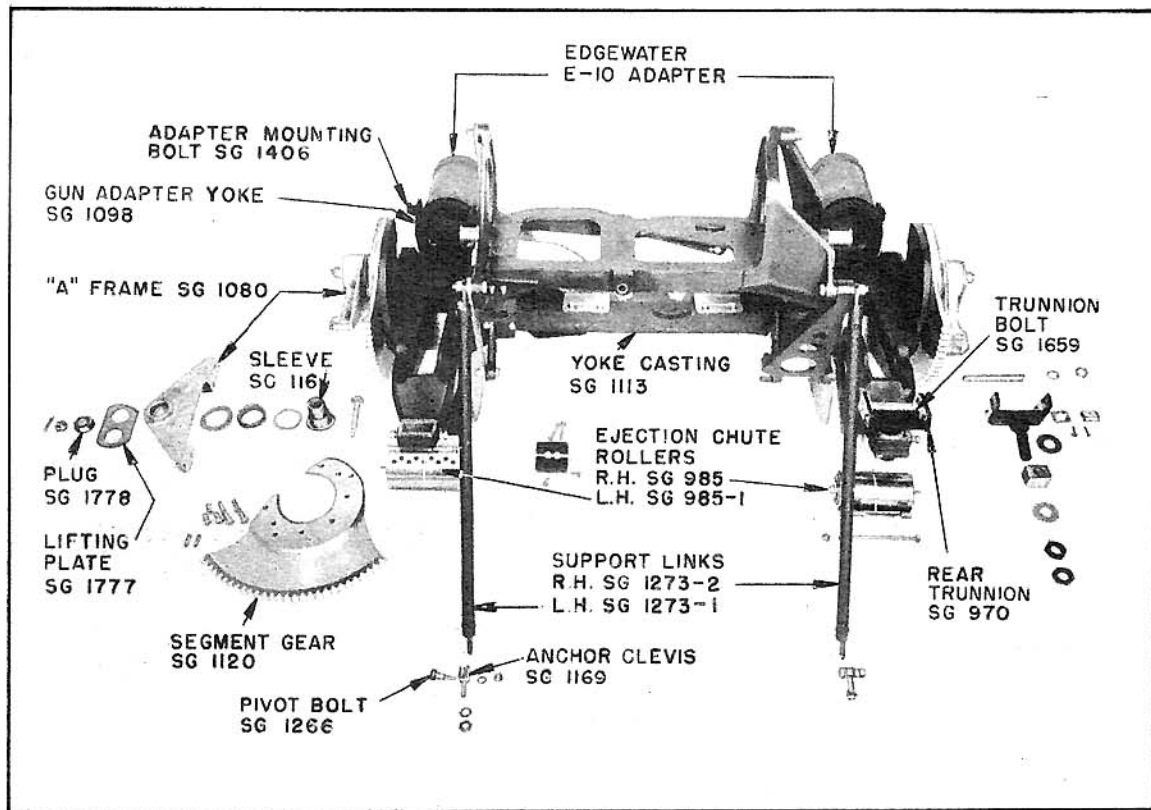

FIGURE 44
1. Carefully mesh segment gear (SG 1120) (see Figure 44) and pinion gear on elevation gear box (see Figure 18) and lower unit so that the studs holding the "A" frame to the unit housing will not be damaged.
(a) General. - 1. The following gun accessories are mounted on each gun before it is installed in the turret. (See Figures 44 and 49.)
(f) Edgewater Adapter. - 1. Remove front trunnion C-4052 and replace with Edgewater adapter, type E-10. (See Figure 44.) Be sure to retain shim B 8951 between adapter and seat. Lock adapter by allowing spring loaded front trunnion locking pin to seat.
(b) Bolt the rear trunnion in place with the bolt, nut and cotter key supplied for this purpose. (See Figure 44.)